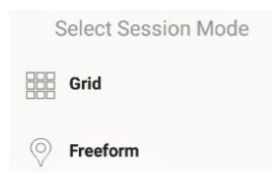

Figure 1. Session Mode screen
4. Select an existing session or create, name, and select a new session. This will bring up the **Select Session Mode** screen (Fig. 1). Select whether you are using Grid or Freeform (Pro version only) mode to collect data.